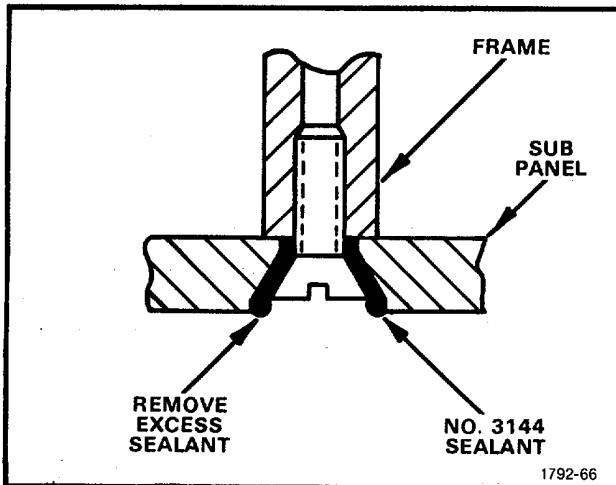

Figure 5-12. Detail of Subpanel screwhole sealing.
12. Attach Subpanel to the three Frame Sections (See Fig. 5-12)
1. Fill the countersunk screw holes on the Subpanel with No. 3144 sealant. See Fig. 5-12.